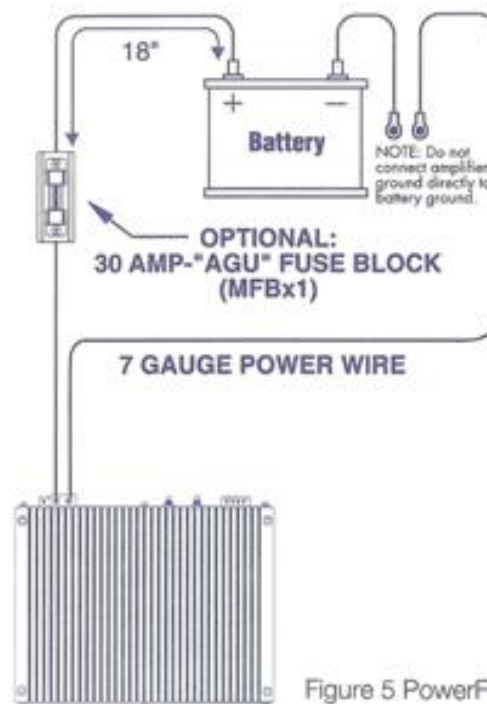

Figure 5 PowerFlow System
2. Always place a fuse or circuit breaker no more than 18 inches from the battery. This protection is only for the vehicle, not the amp and should be no greater than 30 amps per amplifier. (See Figure 5)